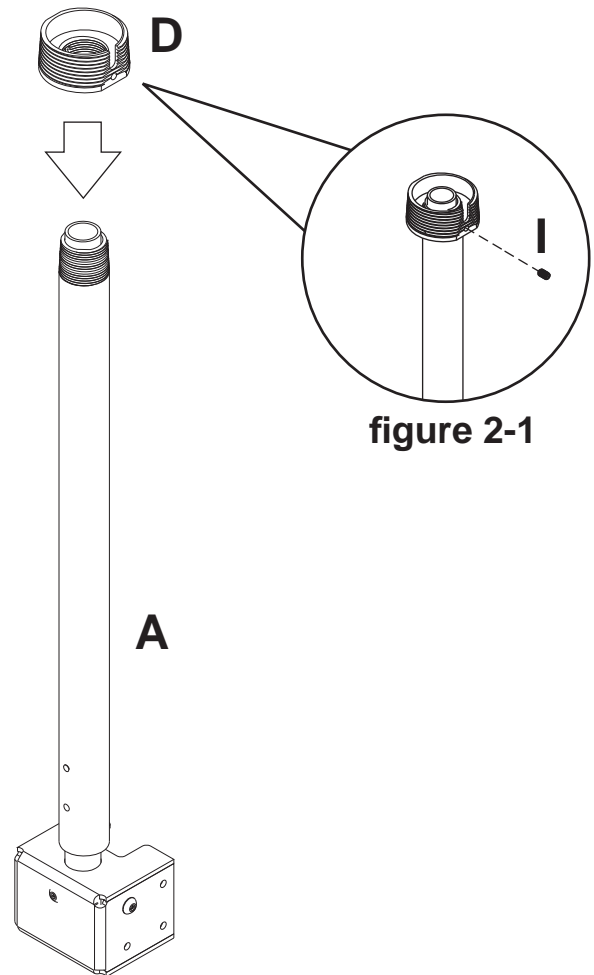

figure 2-1
Thread reducer (D) onto tube assembly (A) until tight. Insert set screw (I) into reducer as shown in figure 2-1. Tighten screw using hex wrench (J). **Note:** Set screw (I) is used to jam against the threads of tube assembly to prevent any excess movement.